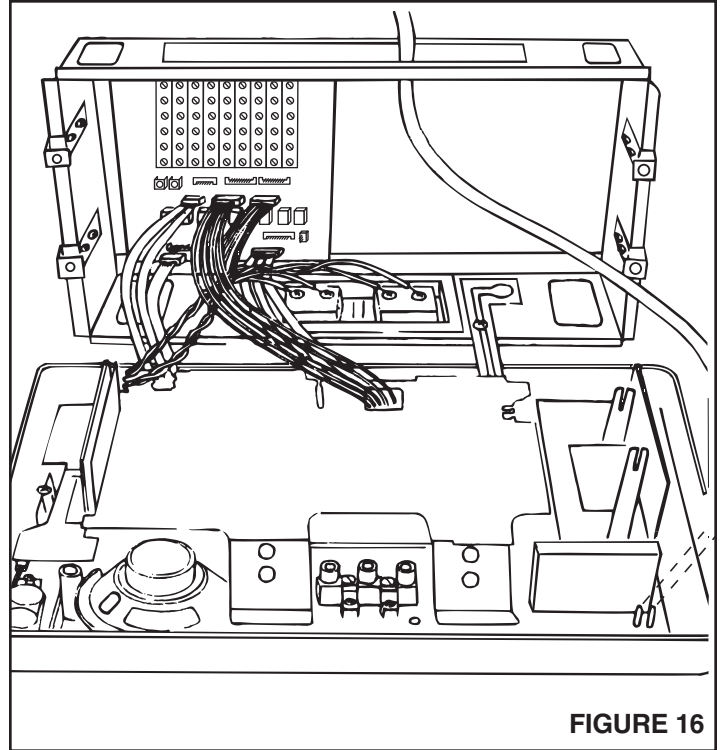

FIGURE 16
1. Refer to Figures 16 and 17. Plug all five connectors into the terminal board.